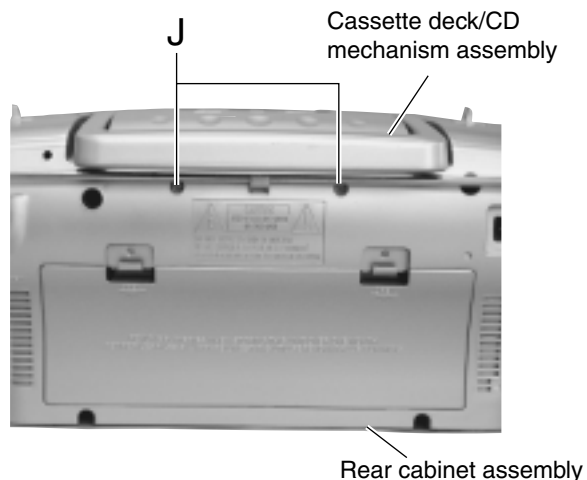

Fig.12
(See Figs.12 and 13.)
1. From the rear side of the rear cabinet assembly, remove the two screws **J** retaining the cassette deck/CD mechanism assembly. (See Fig.12.)
- Prior to performing the following procedures, remove the cassette deck/CD mechanism assembly. (See Figs.12 and 13.)